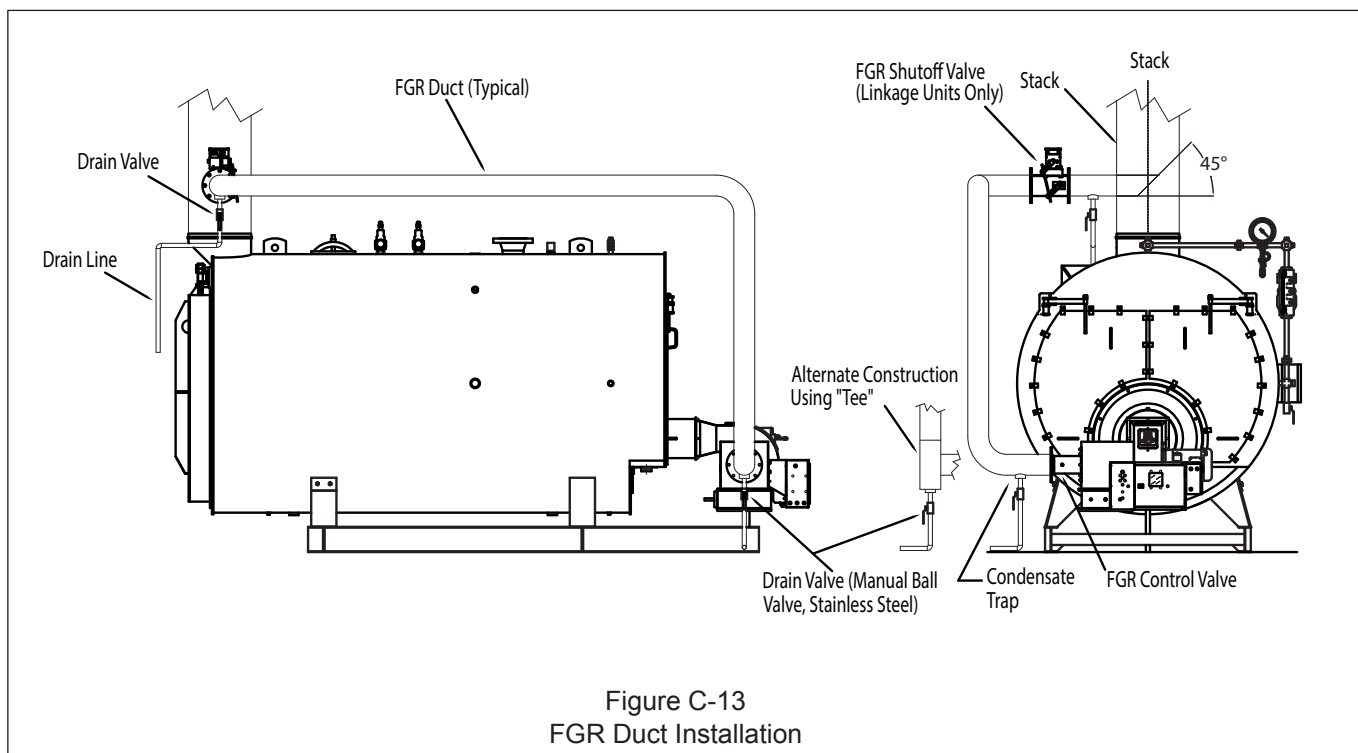

Figure C-13
If the burner is equipped with Induced Flue Gas Recirculation (IFGR), it will require a duct connection between the stack outlet of the boiler and the air inlet of the burner (See Figure C-13). FGR is used to reduce NOx emissions. There can be different levels of NOx emissions that require different quantities of flue gas and different FGR duct and valve sizes. Proper sizing and installation of the FGR duct must be done to provide the required emission control and burner performance.
For example, consider the arrangement shown in Figure C-13. There will be three standard 90 degree elbows and 22 feet of straight pipe. If 8" pipe is used, then the total equivalent pipe length will be:
- Normally the duct would connect to the stack as shown in Figure C-13, with a 45 degree cut facing the flue gas flow and with the center of the cut centered in the stack. The duct could be made to the smoke box, but must still be located with the same 45° cut facing the flue gas flow stream and with the center of the cut in the center of the stream. Do not locate in an area that does not have a high volume of flue gas flow, or there may not be enough FGR available.
- Duct expansion and contraction can be managed by using two relatively long duct runs that are 90° apposed to each other, similar to that shown in Figure C-13. A small movement in the angle between these two legs will provide the space needed to absorb the expansion and contraction. The ends of the FGR duct must be securely attached to allow this to work properly, and prevent high loads from being applied to the burner or stack.